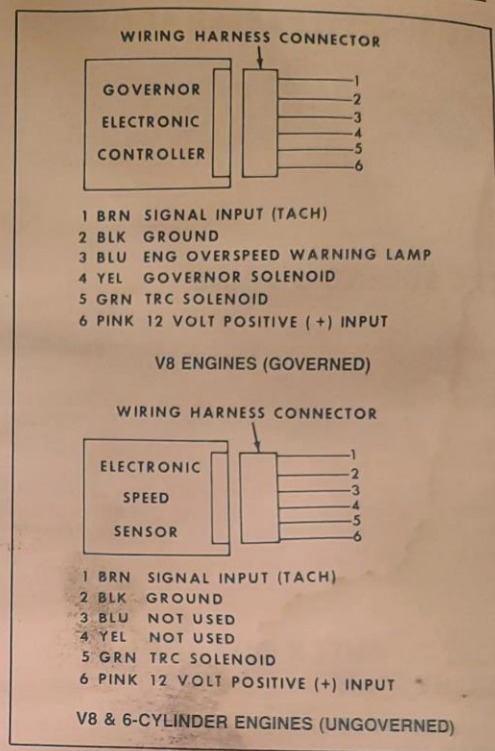

Figure 7-6. Identification of Electronic Terminals
- a. With a voltmeter, check for voltage at the solenoid vacuum control valve and electronic speed sensor. This can be done by connecting the negative probe of a voltmeter to the engine "ground" and inserting the positive probe in the connector cavity of the voltage source wire (Fig. 7-6).